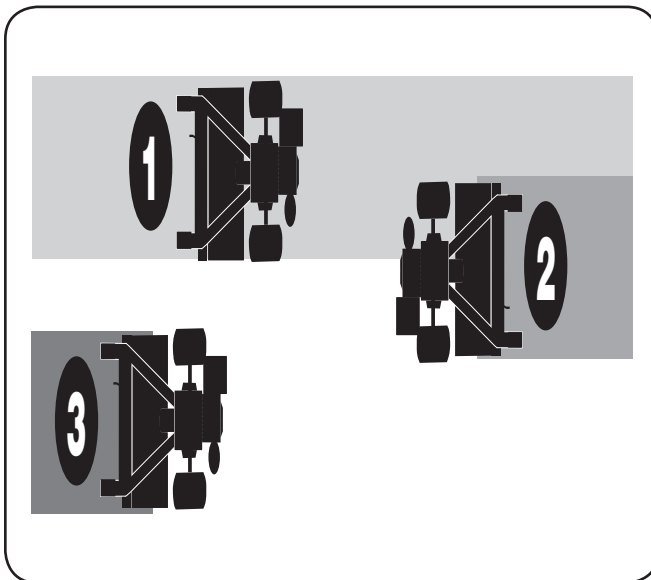

Figure 5-7
- If the garden size will not permit lengthwise and then crosswise tilling, then overlap the first passes by one-half a tiller width, followed by successive passes at one-quarter width. See Figure 5-7.